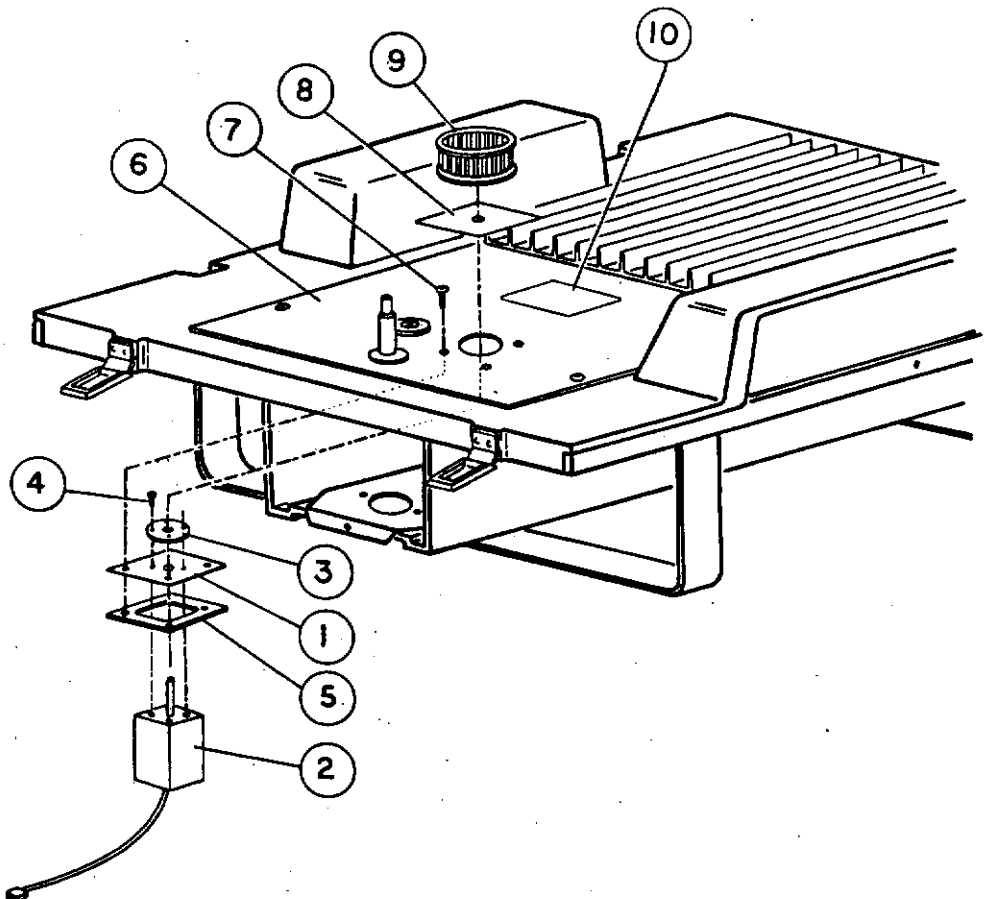

FIGURE 5.3 INSTALLATION OF REPLACEMENT MOTOR ASSEMBLY
- C. If an adhesive backed motor dust cover (item 3) is in place over the Fan Motor opening, remove the cover and discard.
- D. Remove the two screws that secure the cover (item 4) to the front of the Power Chassis (item 5).
- F. Remove the screw (item 6) from the bottom center of the Power Chassis and slide the chassis out of the Incubator.
- G. Remove the four Motor Assembly mounting screws (item 7) from the Air Inlet Cover Plate (item 8) and remove the Motor Assembly through the Power Chassis opening.
- H. Remove the square Motor Clamp Plate (item 9) from the motor and discard the Clamp Plate.
- I. Remove the four 6-32 flat head screws (item 10) from the round Motor Clamp Plate (item 11), remove the clamp plate and rubber Mounting Pad (item 12) from the motor shaft and discard the old motor.
- J. Refer to Figure 5.3. Install the rubber Mounting Pad (item 1) on the shaft of the replacement Motor Assembly (item 2) and secure in place with the round Motor Clamp Plate (item 3) and the four 6-32 flat head screws (item 4).